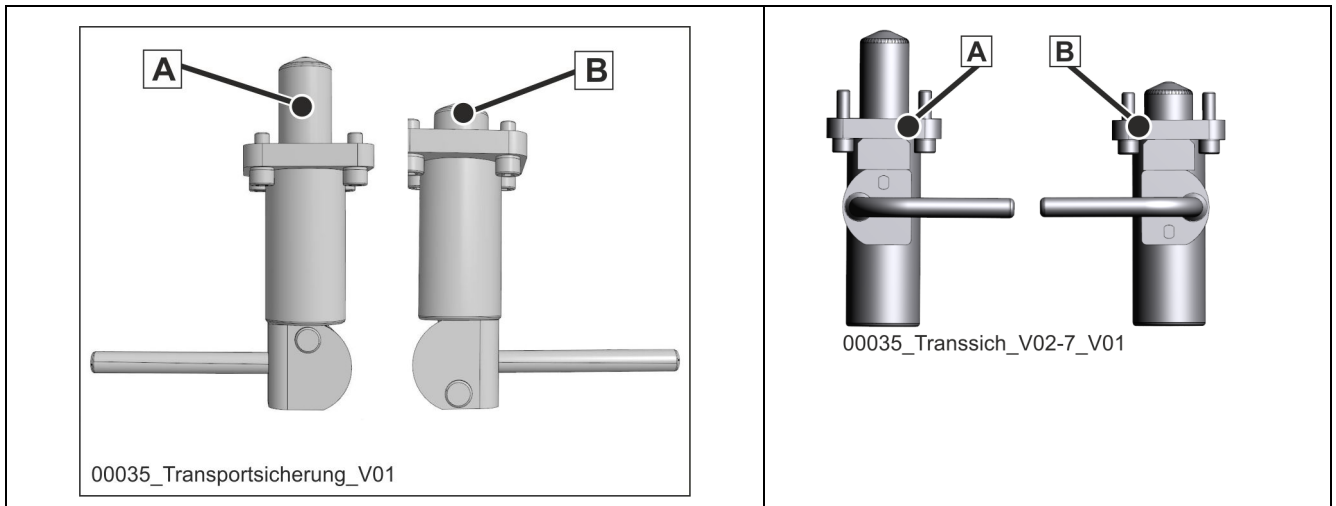

Fig. 134 Transport safety devices
- Loosen the transport safety devices (**Fig. 134**) on all outriggers before moving the outriggers, if this is provided for in the design.
Caption (Fig. 134)